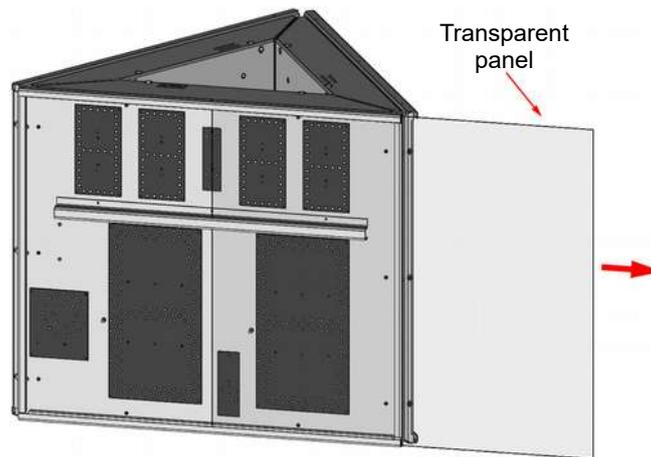

Fig. 3.4: Removal of the transparent board
5. Remove the transparent board from the side as shown in Fig. 3.4 and repeat the operation for all front panels.